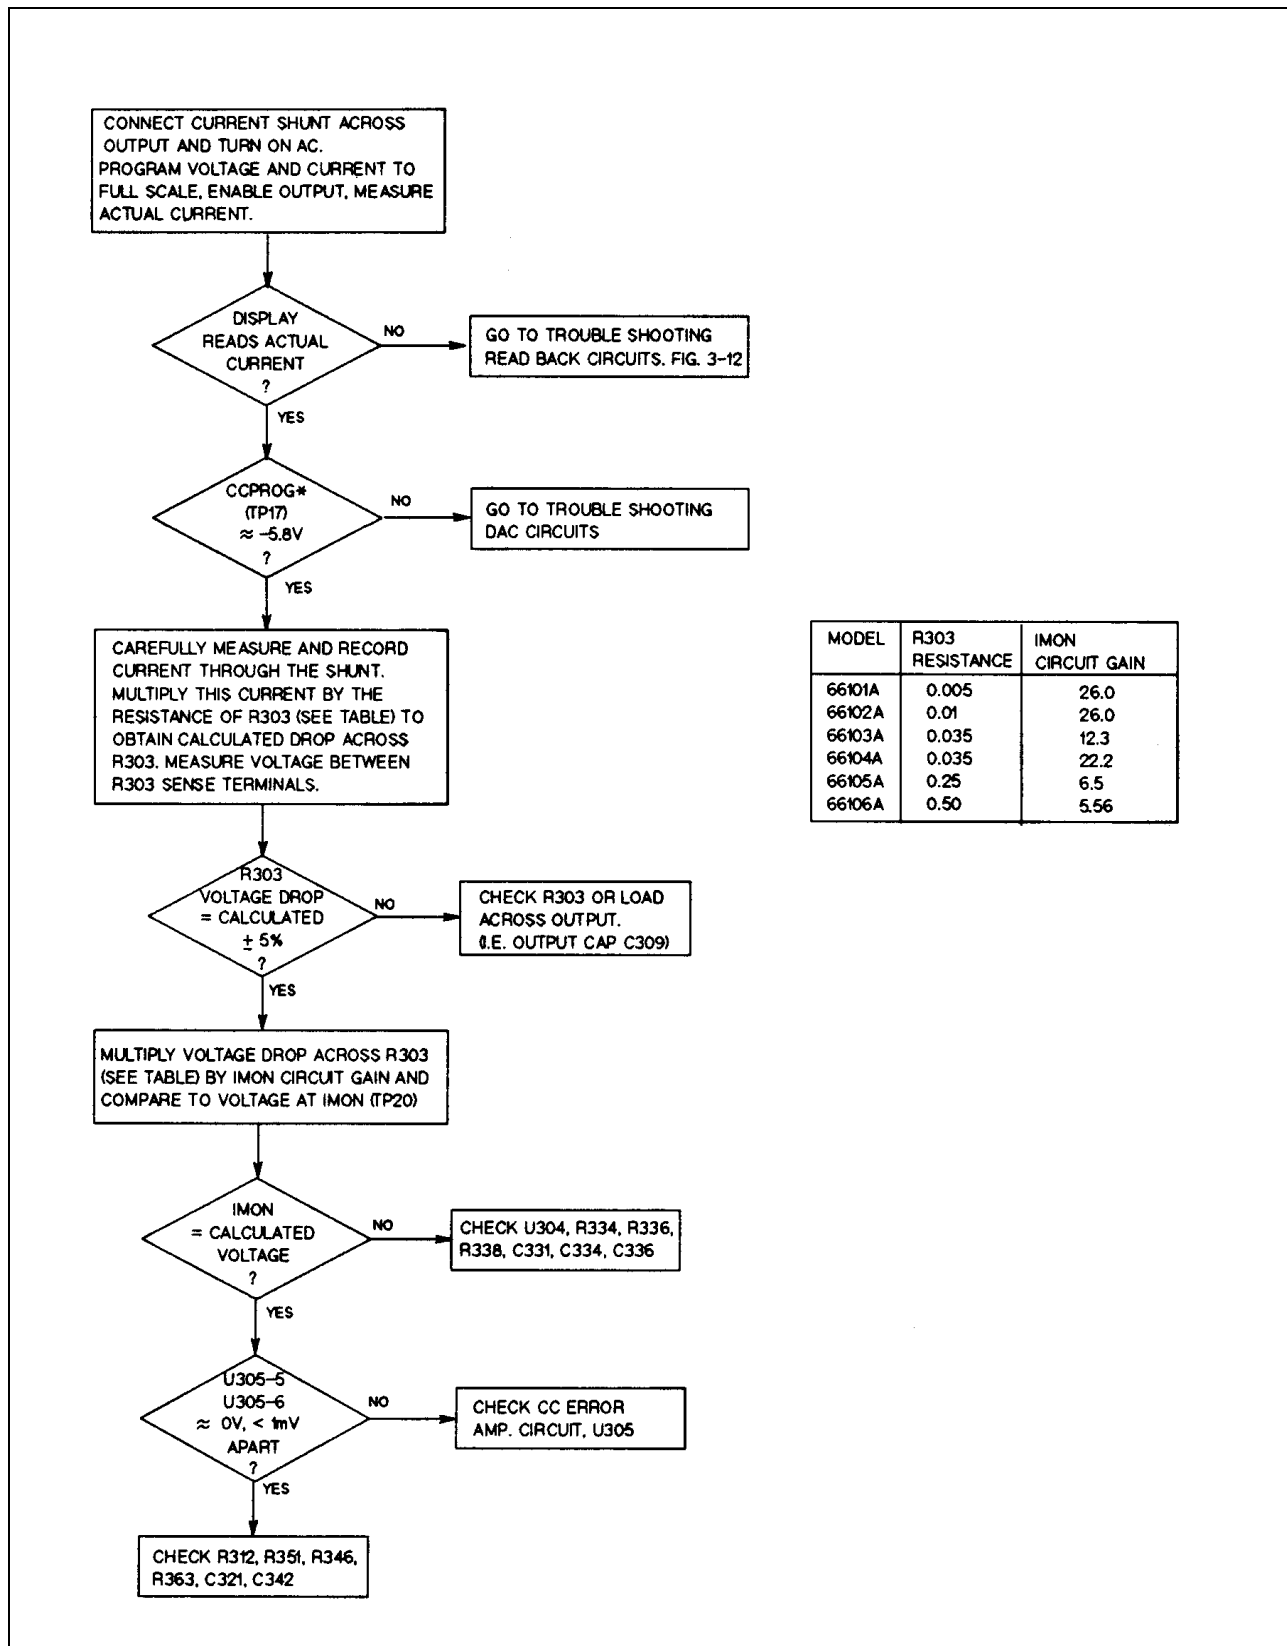

Figure 3-9. Troubleshooting CC Accuracy
- Figure 3-9 - Troubleshooting CC Accuracy